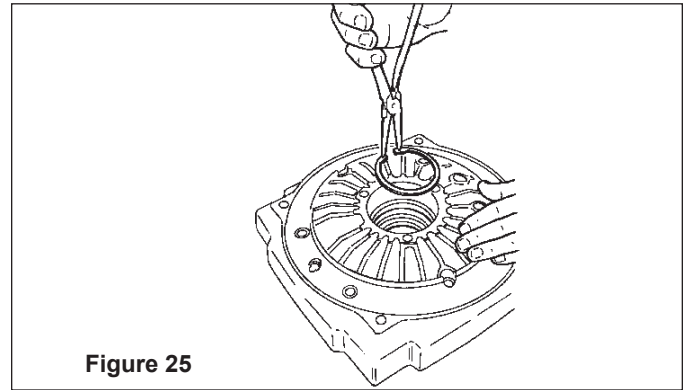

Figure 25
- Using circlip pliers, install circlip (29) into sideplate. See Figure 25.